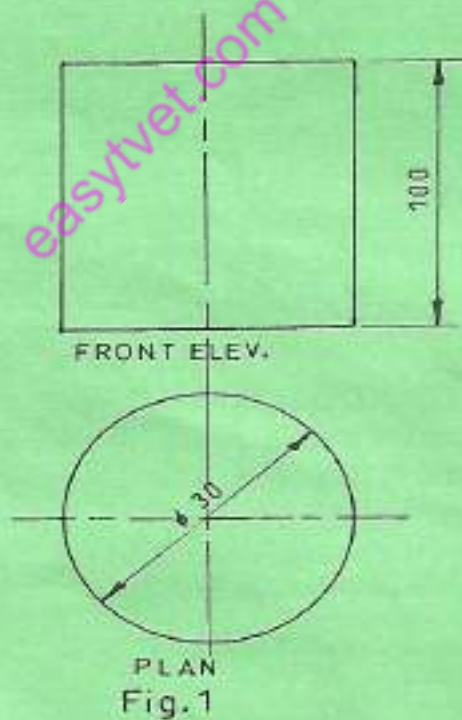

Fig. 1
7. Figure 1 shows a front view and a plan of a cylinder. Construct an isometric view of the cylinder full size. (4 marks)